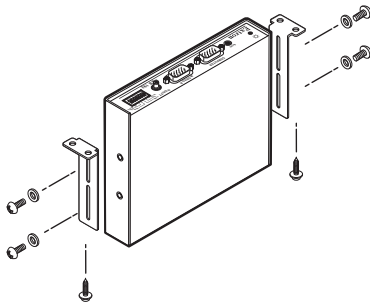

Figure 2-2 — Through-desk mounting
- 2 Insert the machine screws that are already installed in the side of the interface through the slots in the through-desk mounting brackets (part #70-077-02), and loosely secure the brackets to the interface (figure 2-2).